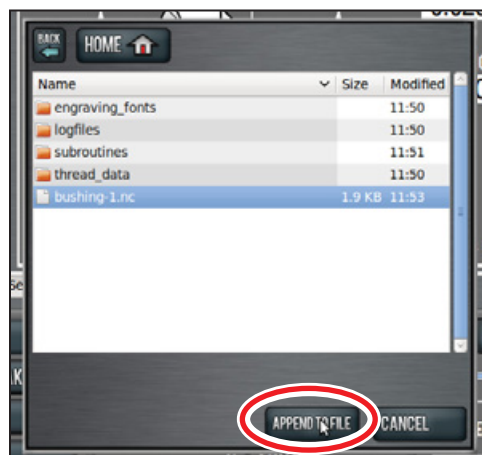
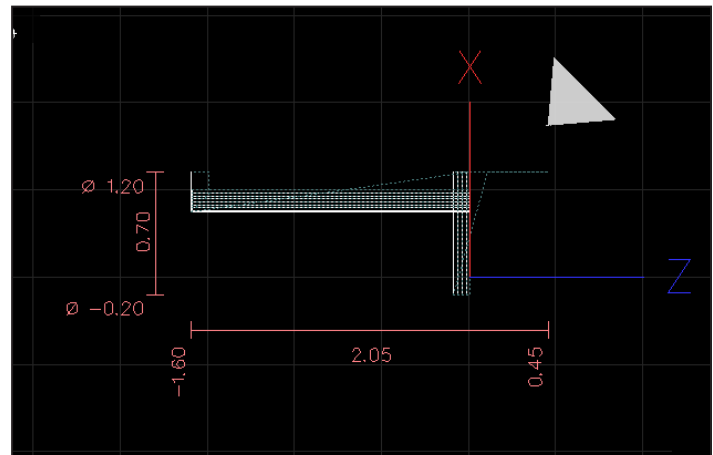

Figure 4.27
Figure 4.28
3. In dialog box, select file created in Operation 1 (see **Figure 4.27**); this adds OD turn G-code to that program.
4. Confirm Append to File in dialog box (see **Figure 4.27**); this loads changes from Operation 2 to the G-code file into control and generates the tool path (see **Figure 4.28**).